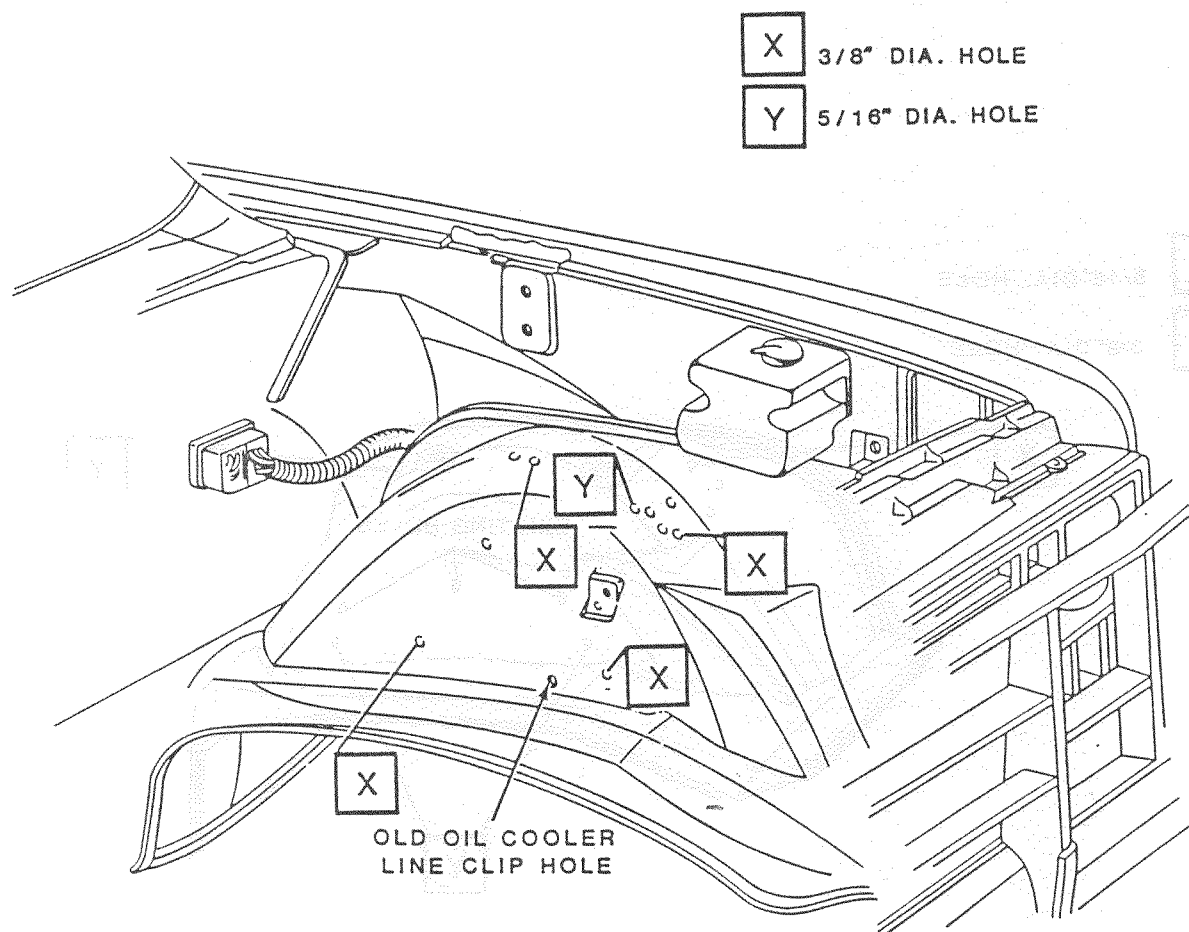

Figure 8.
65. Locate and drill  $3/8$  inch holes X, and  $5/16$  inch holes Y, in left fender skirt in prepunched depressions (Figure 8.).